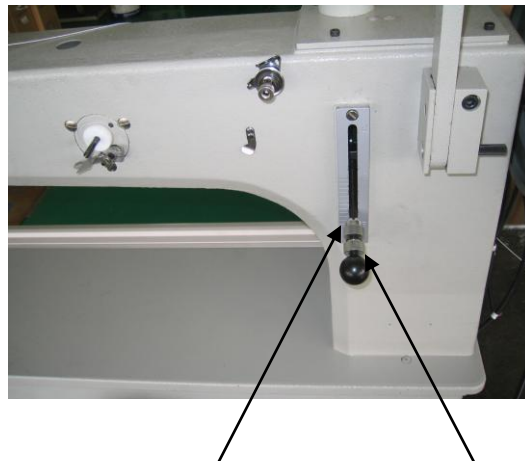

Fig.7
Loosen the nut (3),adjust the length of stitch with the nut(2).The range of the length from 0 to 10mm.Tighten the nut (3) after finished adjustment (Fig.7).